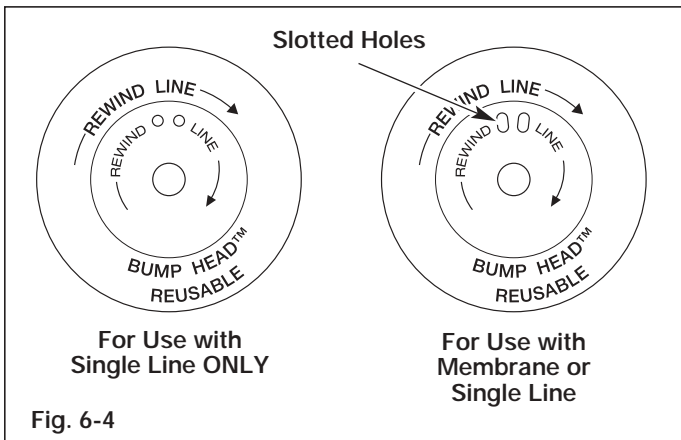

Fig. 6-4
**NOTE:** *SplitLine™ can only be used with the inner reel containing slotted holes. Single line can be used on either type of inner reel. Use Figure 6-4 to identify the inner reel you have.*